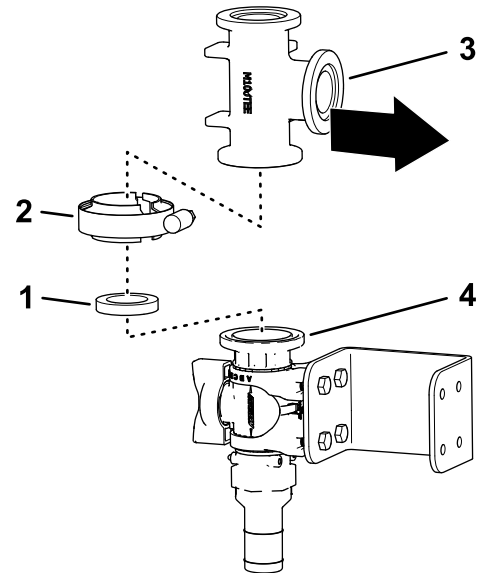
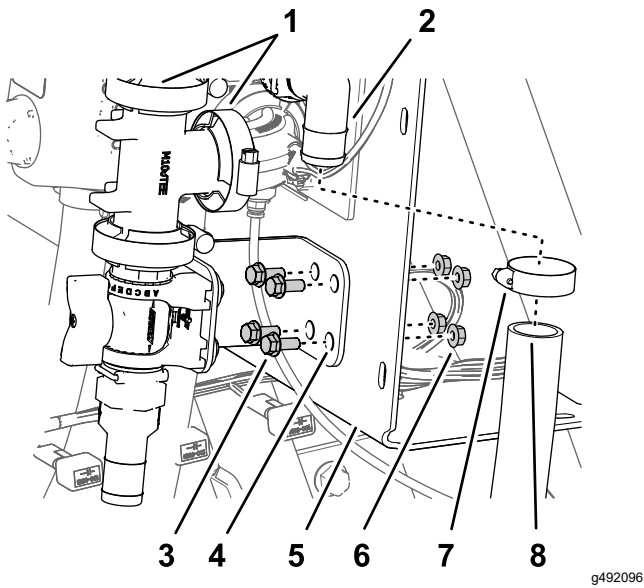

Figure 42
Figure 45
6. Align the flange of the T-fitting to the flange of the control valve as shown in Figure 42.
7. Loosely attach the T-fitting to the control valve with a gasket and flange clamp (Figure 42).
2. Assemble the control-valve bracket to the manifold mount (Figure 45) with 4 flange-head bolts (1/4-20 x 5/8 inch) and 4 flange locknuts (1/4-20 inch); torque the bolts to 10 to 12 N·m (86 to 106 in-lb).
3. Tighten by hand the flange clamp that secures the control valve and the T-fitting (Figure 42) and the flange clamp that secures T-fitting to the 90° fitting (Figure 45).